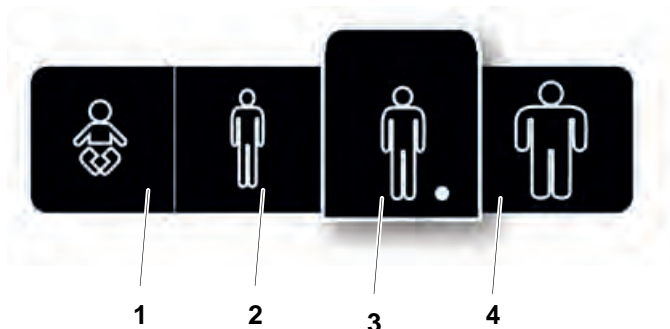

Fig. 4-7 Patient size selection
*Patient size* is adjusted by pressing the *Patient size selection* button. A pop-up window, according to Fig. 4-7 *Patient size selection*, will open and show available patient sizes.